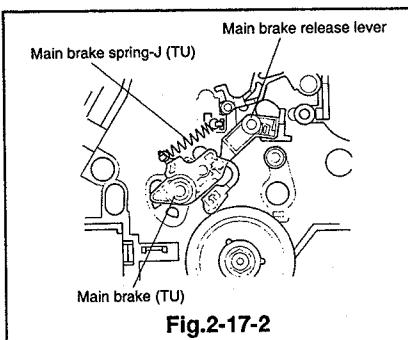

Fig. 2-17-2
- ① Install the main brake(TU) on the main plate assembly so that the coupling portion with the main brake release lever is as shown in Fig. 2-17-2.
- ② Install the main brake spring JTU.
- ③ Install the sub brake(TU), the sub off lever, and the sub spring(TU). (Refer to Para. 2-16 for the installation method.)
- ④ Install the sub brake(SP) and the sub spring(SP). (Refer to Para. 2-14 for the installation method.)
- ⑤ Install the cassette housing. (Refer to Para. 2-1 for the installation method.)